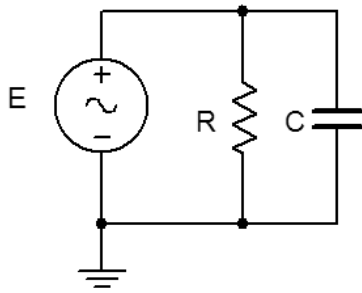

Figure 7.1
1. Using Figure 7.1 with a 10 V p-p 10 kHz source, $R=1\text{ k}\Omega$, and $C=10\text{ nF}$, determine the theoretical capacitive reactance and circuit impedance, and record the results in Table 7.1 (the experimental portion of this table will be filled out in step 6). Using the current divider rule, compute the resistor and capacitor currents and record them in Table 7.2.
2. Build the circuit of Figure 7.1 using $R=1\text{ k}\Omega$, and $C=10\text{ nF}$. A common method to measure current using the oscilloscope is to place a small *current sense resistor* in line with the current of interest. If the resistor is much smaller than the surrounding reactances it will have a minimal effect on the current. Because the voltage and current of the resistor are always in phase with each other, the relative phase of the current in question must be the same as that of the sensing resistor's voltage. Each of the three circuit currents will be measured separately and with respect to the source in order to determine relative phase. To measure the total current, place a $10\ \Omega$ resistor between ground and the bottom connection of the parallel components. Set the generator to a 10 V p-p sine wave at 10 kHz. Make sure that the *Bandwidth Limit* of the oscilloscope is engaged for both channels. This will reduce the signal noise and make for more accurate readings. Also, consider using waveform averaging, particularly to clean up signals derived via the *Math* function.
3. In general, how would the phasor diagram of Figure 7.1 change if the frequency was raised?